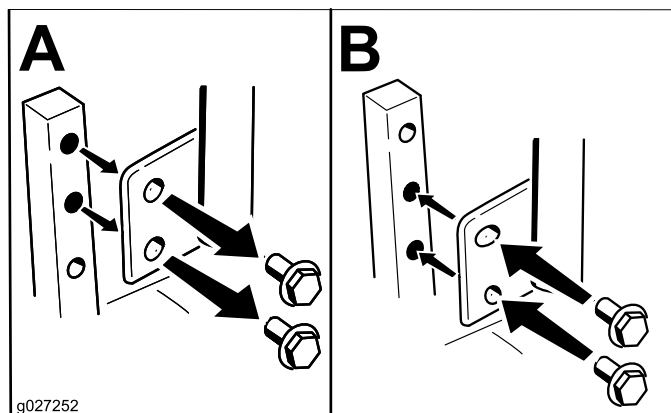

Figure 21
The motion-control levers can be adjusted higher or lower for maximum operator comfort (Figure 21).
2. Loosen the lower bolt just enough to pivot the control lever fore or aft (Figure 21). Tighten both bolts to secure the control in the new position.